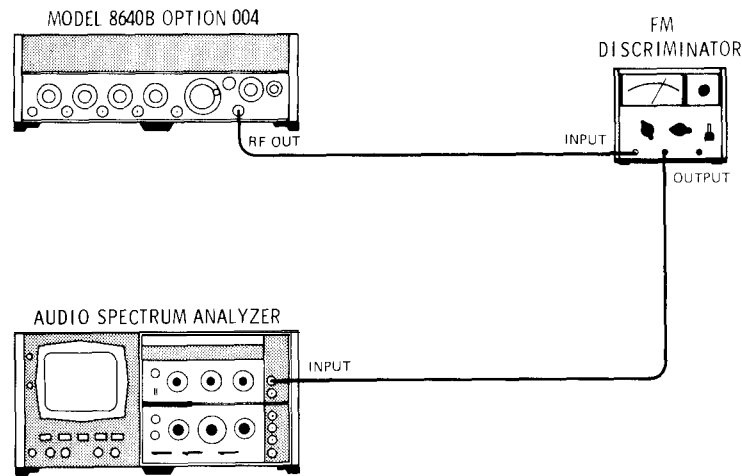

Figure 4-29. FM Distortion Test Setup
- Connect equipment as shown in Figure 4-29 after setting Signal Generator's controls as follows: